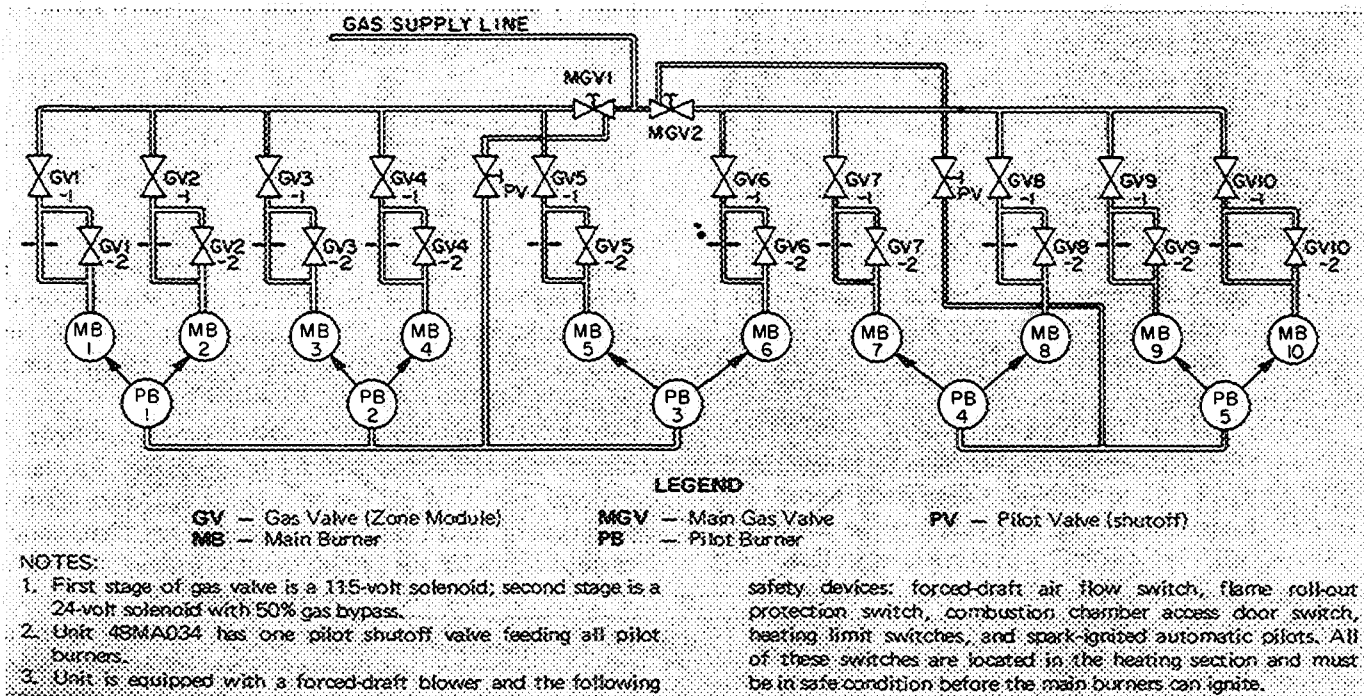

Fig. 26 – Gas Piping Schematic (Ten-Zone 48MA Unit Shown)
**Zone Module Gas Valves (48MA)** — Each zone module has its own combination gas valve/pressure regulator which is supplied by one of the two main gas valves (Fig. 26).